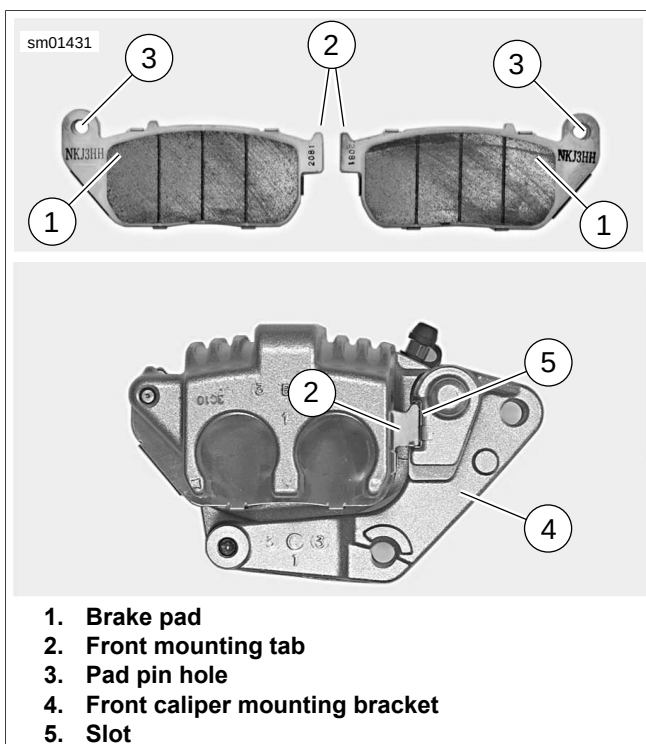

Figure 1-46. Front Brake Pads
8. See Figure 1-46. Install **new** inside brake pad (1) using same orientation as pad previously removed. Align mounting tabs.
- See Figure 1-46. Fully seat mounting tabs (2) in slot (5).